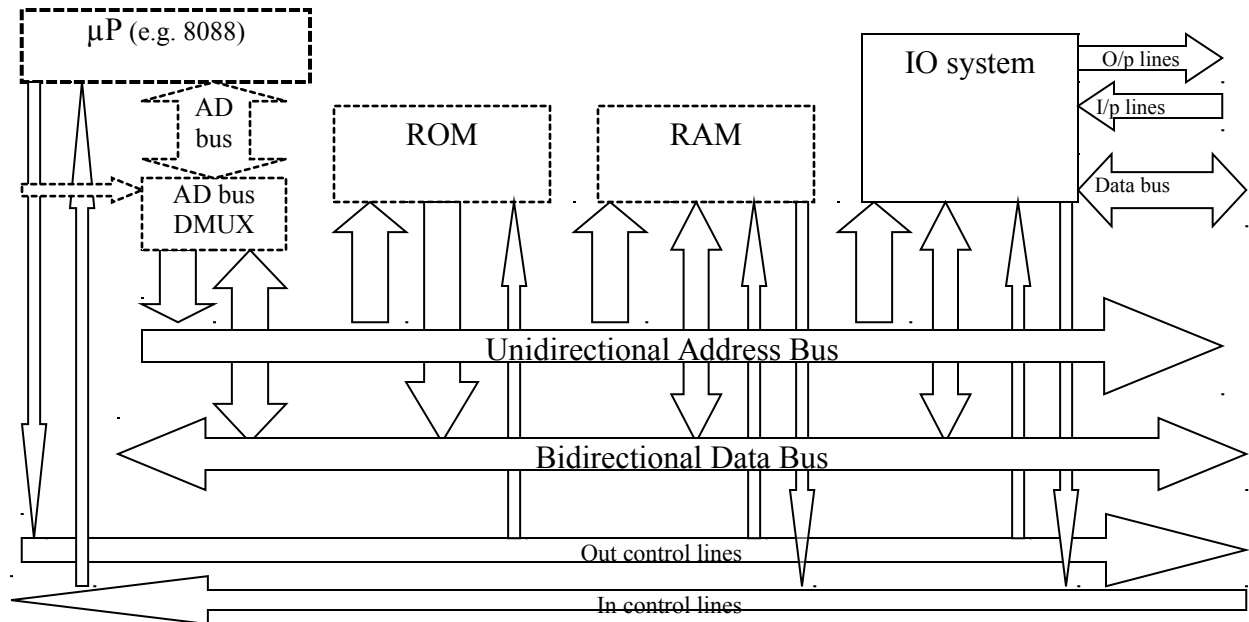

Fig. 4: System architecture for a microprocessor based system
5. The following reference system architecture for a microprocessor based system will give you the needed big picture (Fig.4) to give a head start. You have to design all the components except the CPU, AD bus DMUX, ROM and RAM, which are showed in dotted lines. The block arrows indicate the direction of data flow.